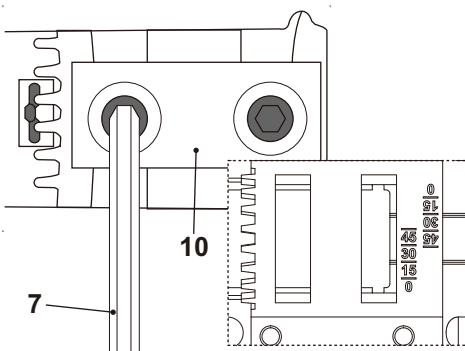

Fig. 12
To adjust base plate, loosen screw with the hex key (7) provided, slide the base plate (10) slightly forward towards the front of tool, then rotate to desired angle. (Fig. 12). The detent slots will hold the footplate firmly at 45°, and there are additional position marks for 15° and 30° angles. The number of degrees to be set is engraved on the base plate. Slide the base plate back to the front until the teeth engage. After positioning the base plate securely tighten screw. Check that the base plate is secure.